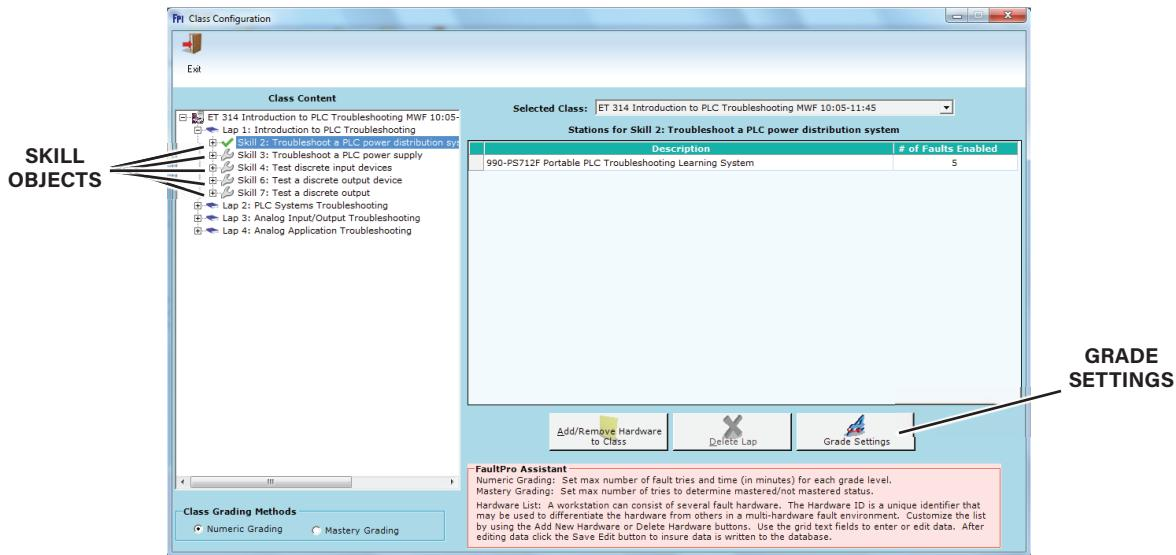
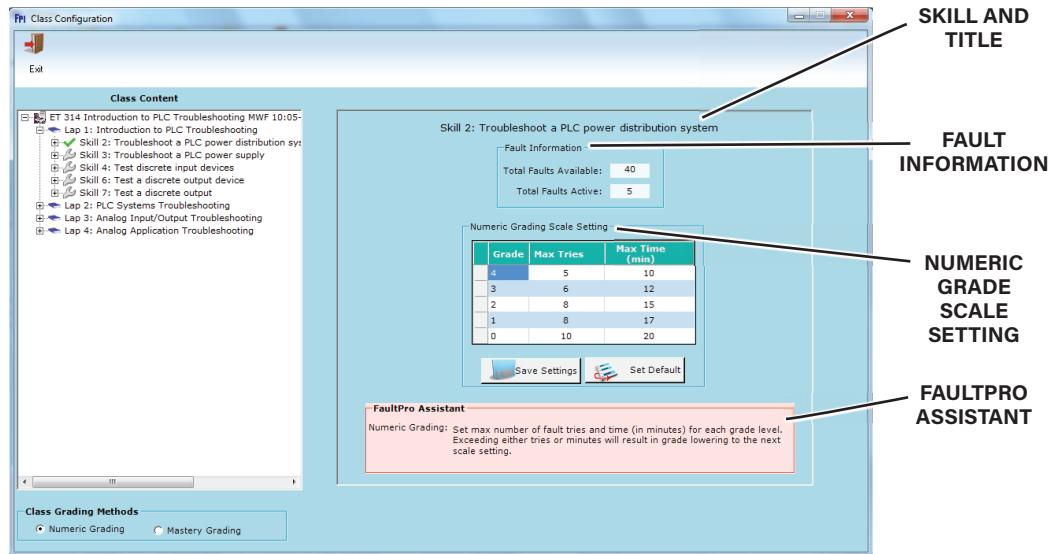

Figure 59. Skill Selected, Hardware Appears in the Workspace
Figure 60. Grade Settings for Selected Skill
7. Click the **Grade Settings** button, shown in figure 59, to display the grade settings for the selected skill, as shown in figure 60.